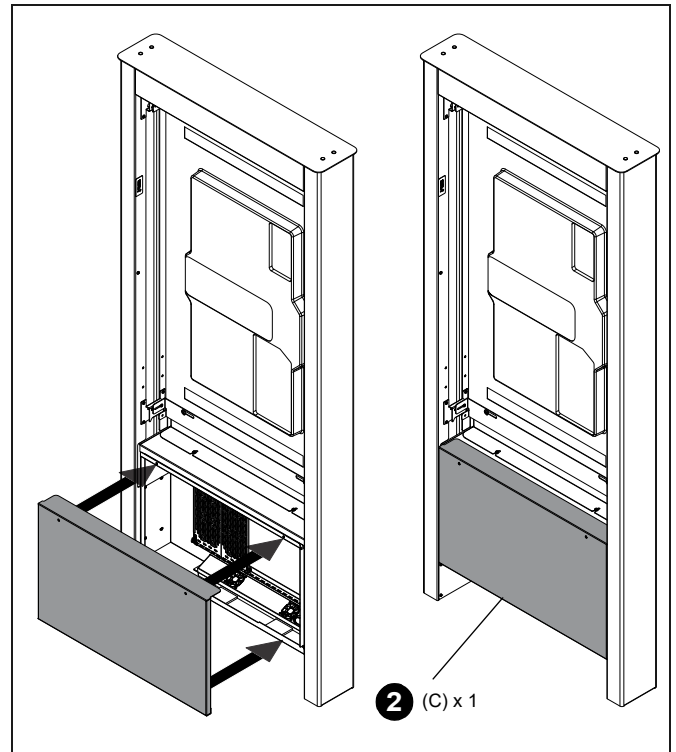

Figure 16
2. Place the rear cover (C) over the back side of the kiosk frame. (See Figure 16)